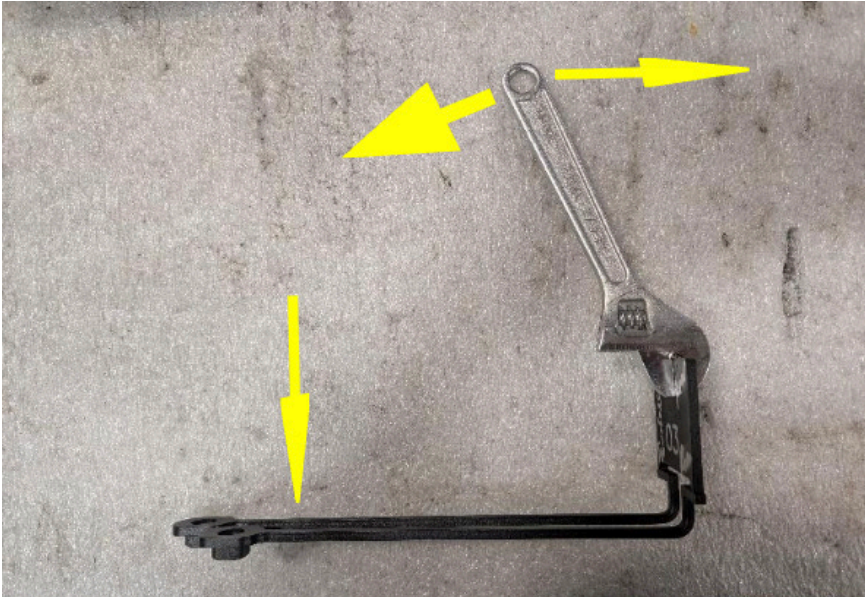

Figure 2
3. Disassemble the nut plates by placing a wrench on the break off tab and wiggle the tab unit it breaks while holding the nut plates against a table. Once tab is removed, twist the nut plates until the small tab holding them at the base breaks. Figure 2.